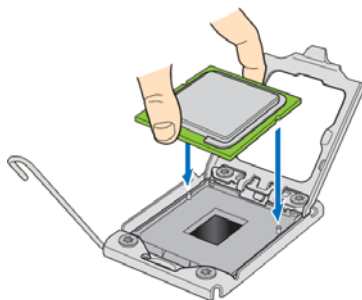

Figure 32. Install the processor
10. Orient the processor with the socket so the processor cutouts match the two socket pins and then sit the processor into the socket as shown in Figure 32.